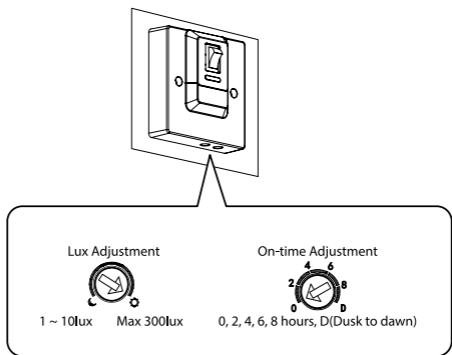

Fig 6 – On-time and Lux Adjustment
- Turn the Lux Adjustment, located on the bottom of the light switch, fully anti clockwise to the Moon symbol. (See Fig 6)
- Turn the On-time Adjustment, located on the bottom of the light switch, clockwise to the 2 hour mark. (See Fig 6)